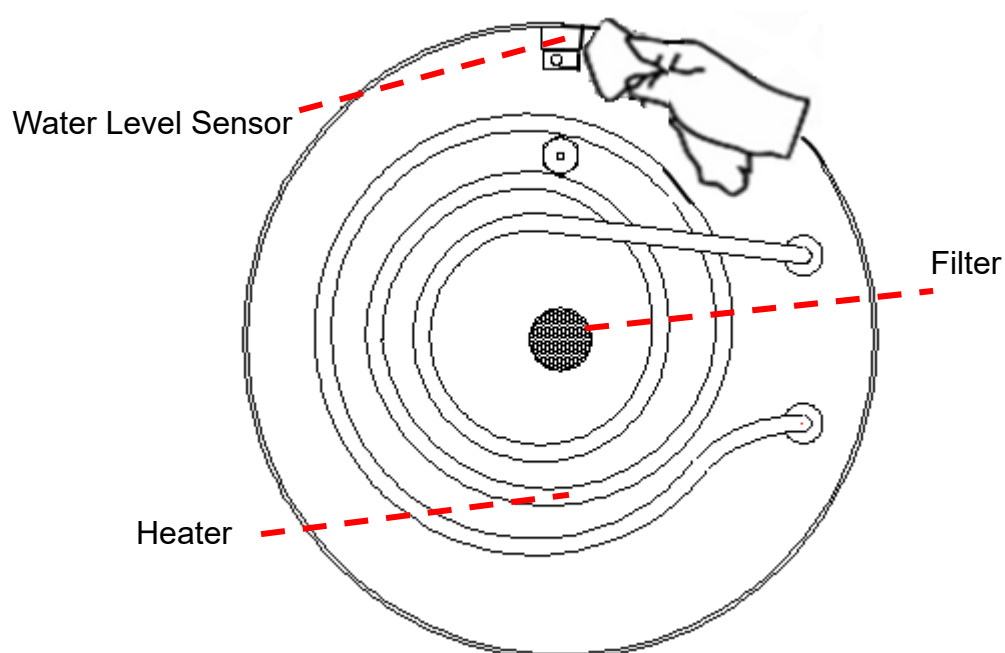

Figure 21
- Use the non-corrosive cleaner and stiff bristled brush or sponge to clean the water level sensor at the bottom of the chamber as Figure 21.
- Clean the dirt off at filter of the bottom of the chamber as Figure 21.